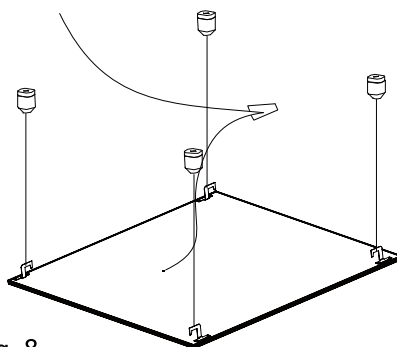

Fig. 8
4. Connect the luminaire wiring to the incoming supply (Fig. 8).